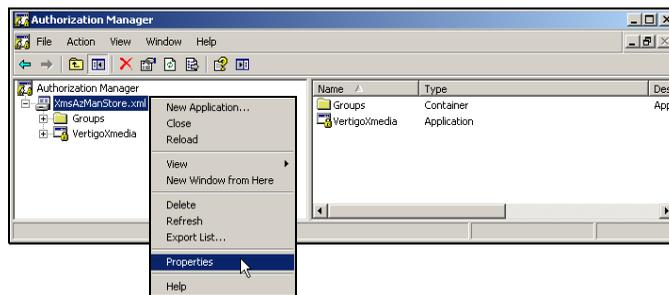

Figure 19-34. Open the Properties for the XmsAzManStore.xml policy store
2. Right-click on the **XMSAZMANSTORE.XML** policy store and select the **PROPERTIES** command (figure 19-34)